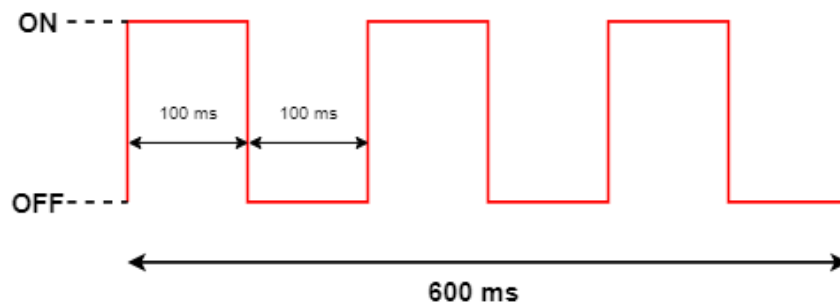

Figure 3-4: The RED LED Pattern Before Entering DEEP SLEEP
2. Immediately, **RED** is toggled ON and OFF 3 times: every 100 sec for 0.6 sec as shown in Figure 3-4.